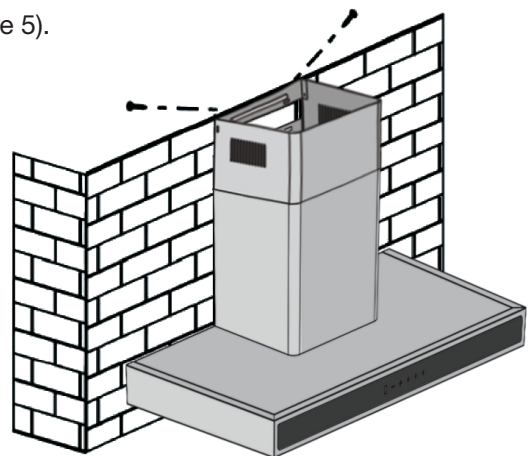

Figure 5
- Screw the upper chimney to the upper mounting bracket (see Figure 5).